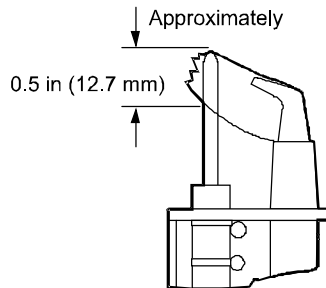

Figure 6: Flame Position
- A flame approximately 1/2 in. (12.7 mm) high must surround the thermocouple tip (Figure 6).